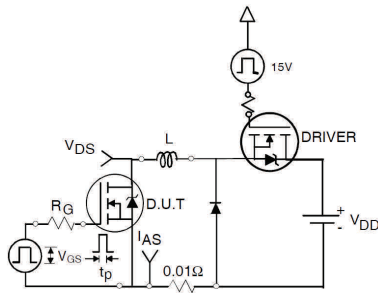

Fig 23a. Unclamped Inductive Test Circuit
3. Equation below based on circuit and waveforms shown in Figures 23a, 23b.